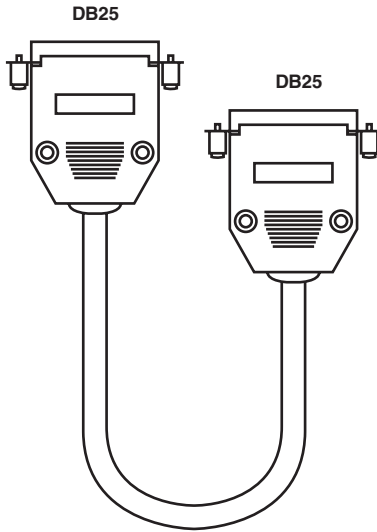

Figure 3-4. System cable.
To connect the Line Multiplier to the ClassWork Plus system: Connect the DB25 male connector from the System cable (see Figure 3-4) to the System In port of the Line Multiplier.
1. Connect the DB25 male connector of the System cable (see Figure 3-4) to the Branch 1 port of the Line Multiplier.
1. Connect the DB25 male connector of the System cable (see Figure 3-4) to the Branch 2 port of the Line Multiplier.
1. Connect the DB25 male connector of the System cable (see Figure 3-4) to the Branch 3 port of the Line Multiplier.
1. Connect the DB25 male connector of the System cable (see Figure 3-4) to the Branch 4 port of the Line Multiplier Unit.